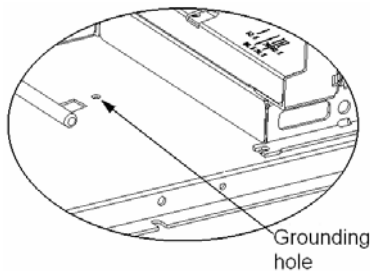

Fig. 4.3-1 Grounding position
To ensure that the printer has a nice grounding status, please follow Fig. 4.3-1 to connecting the grounding wire.
- Tighten the grounding wire to a grounding pole with one M3×5 pan head screw (see Fig. 4.3-1) , then the grounding wire connection is finished;